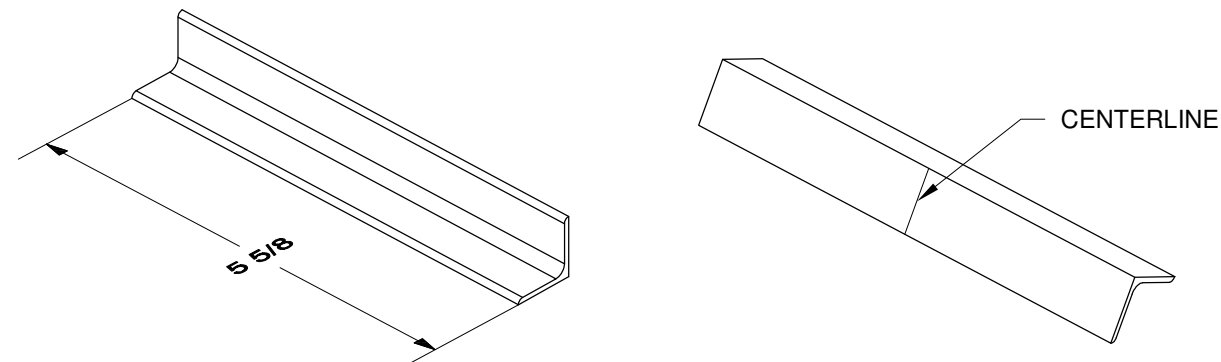

FIGURE 1: CREATING STIFFENER ANGLES **FIGURE 2: MARKING STIFFENER ANGLES**
Step 1: Create two F-1004N Stiffener Angles from AA6-063X3/4X3/4 per the dimensions given in Figure 1.